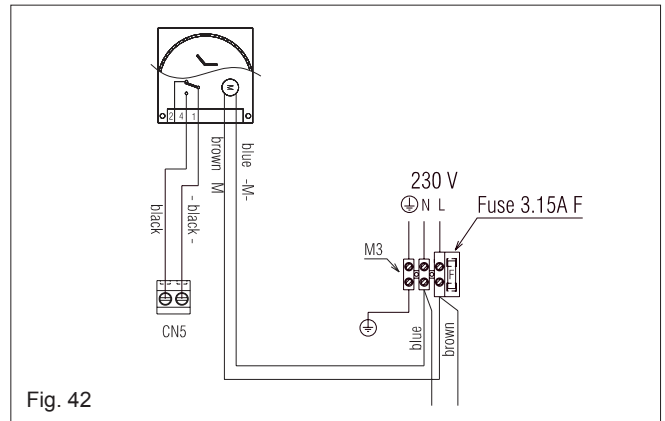

Fig. 42
- single-channel, voltage-free time clocks (fig. 42)